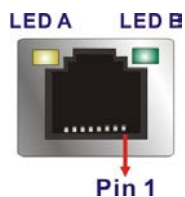

Figure 3-29: Ethernet Connector
- CN Pinouts:** See **Figure 3-29** and **Table 3-29**